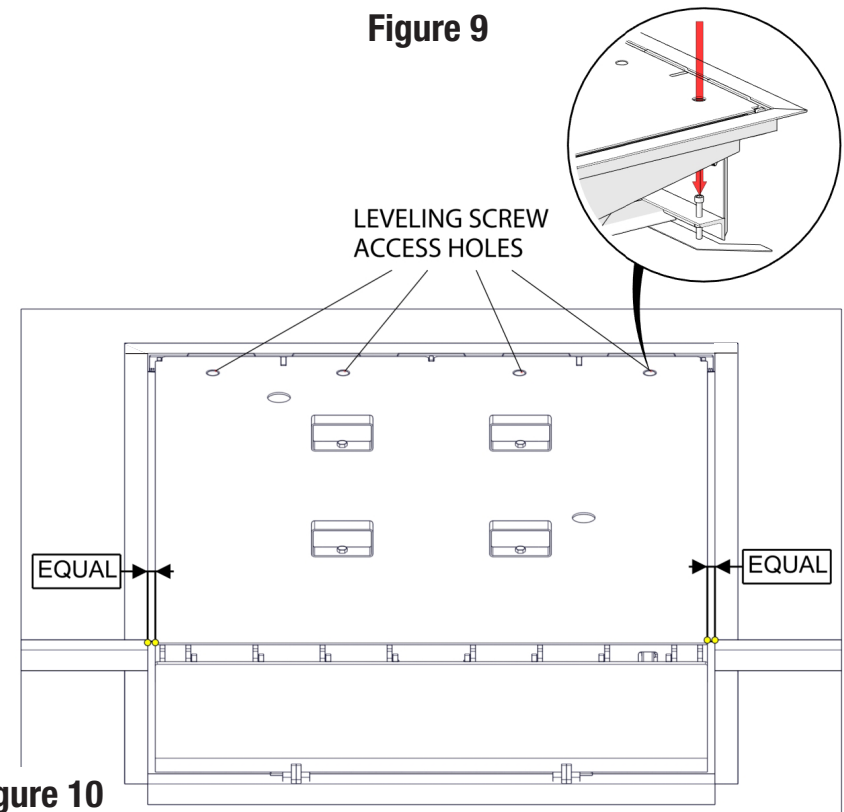

Figure 10
1. Leveling screws have been provided in the rear to help adjust the vertical position without shimming. Adjust the leveling screws until the rear deck of the leveler is even with the warehouse floor. See **Figure 10**.